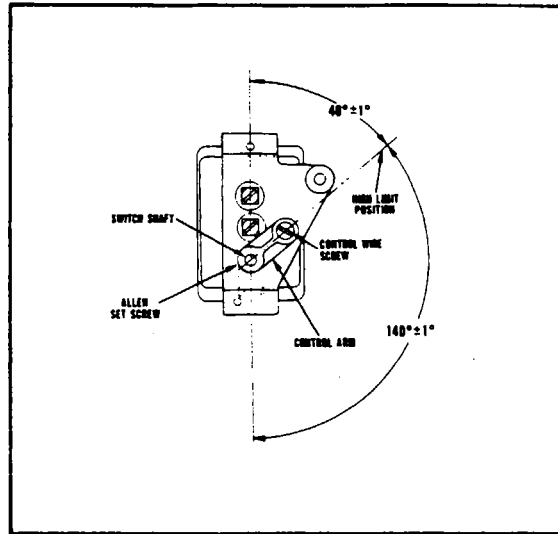

Figure 13-40. Top View - Duct Switch (Typical Control Lever Positions)
13-143. **DUCT SWITCH.** (Refer to Figure 13-40.) This switch is installed in the ventilating air duct downstream from the heater to sense the ventilating air outlet temperature. To select the desired cabin temperature, the switch may be adjusted manually from a high of  $250^{\circ} \text{F} \pm 10^{\circ}$  downward through a range of  $146^{\circ} \text{F} \pm 6^{\circ}$ . The switch has a differential of  $10^{\circ} \text{F} \pm 5^{\circ}$  at any given setting.
- h. Connect the duct switch control cable to the switch on the left side of the air distribution box. Adjust the cable so that when the control knob is full in against its stop, the control arm aligns with the vertical line of the switch. (Do not loosen the Allen set screw that secures the arm to the switch shaft.) Pull the control knob out to ascertain that the control arm will have a  $140^{\circ} \pm 1$  travel to high heat position. (Refer to Figure 13-40.)